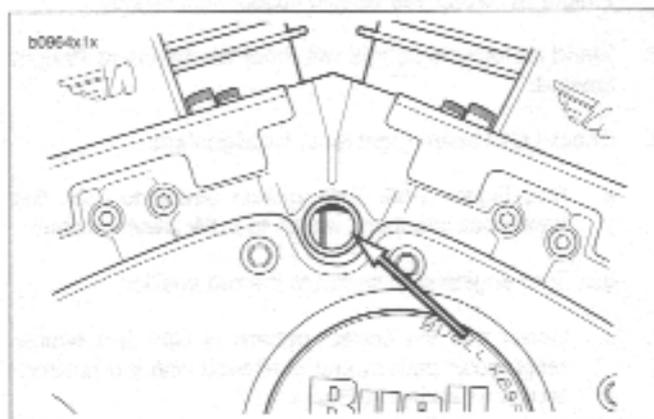

Figure 1-55. Advanced Timing
2. See Figure 1-55. If timing is advanced (mark appears on left side of window) rotate timing plate counterclockwise.